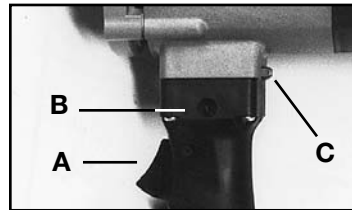

Fig. 10
A trigger (A) Fig. 10 has a lock button (B) conveniently located in the tool handle. To start tool, depress trigger. To stop tool, release trigger. To keep tool running continuously, depress trigger, push in switch locking button (left side of handle). While holding button in, release trigger. To release locking button, depress trigger and release.
Speed is adjusted by turning the thumbwheel (C) Fig. 10. Thumbwheel position #1 provides the slowest operating speed (3300 RPM) and position #6 the fastest (4500 RPM). Speed may be changed while motor is running or not running.